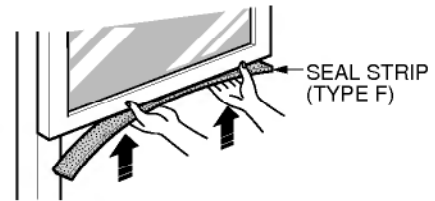

Figure 24
- Step 3. Remove the backing from the seal strip and attach the seal strip to the underside of the bottom window. (Figure 24)